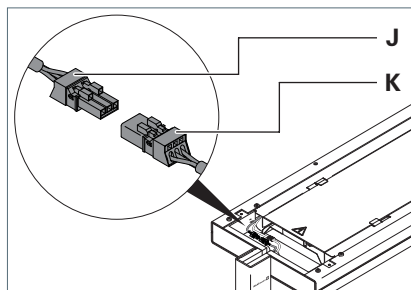

Fig. 16: Connecting the light head, Part 2
- Connect the socket **J** to the plug **K** at the light head, see Fig. 16.